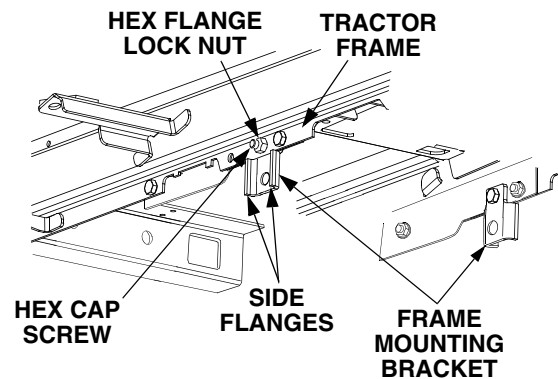

Figure 14
- b. **Series 2500 Tractors Mfg. Date K015 and After.** Looking beneath the front of both running boards, locate the forward most open hole in each side of the tractor frame. See Figure 14.